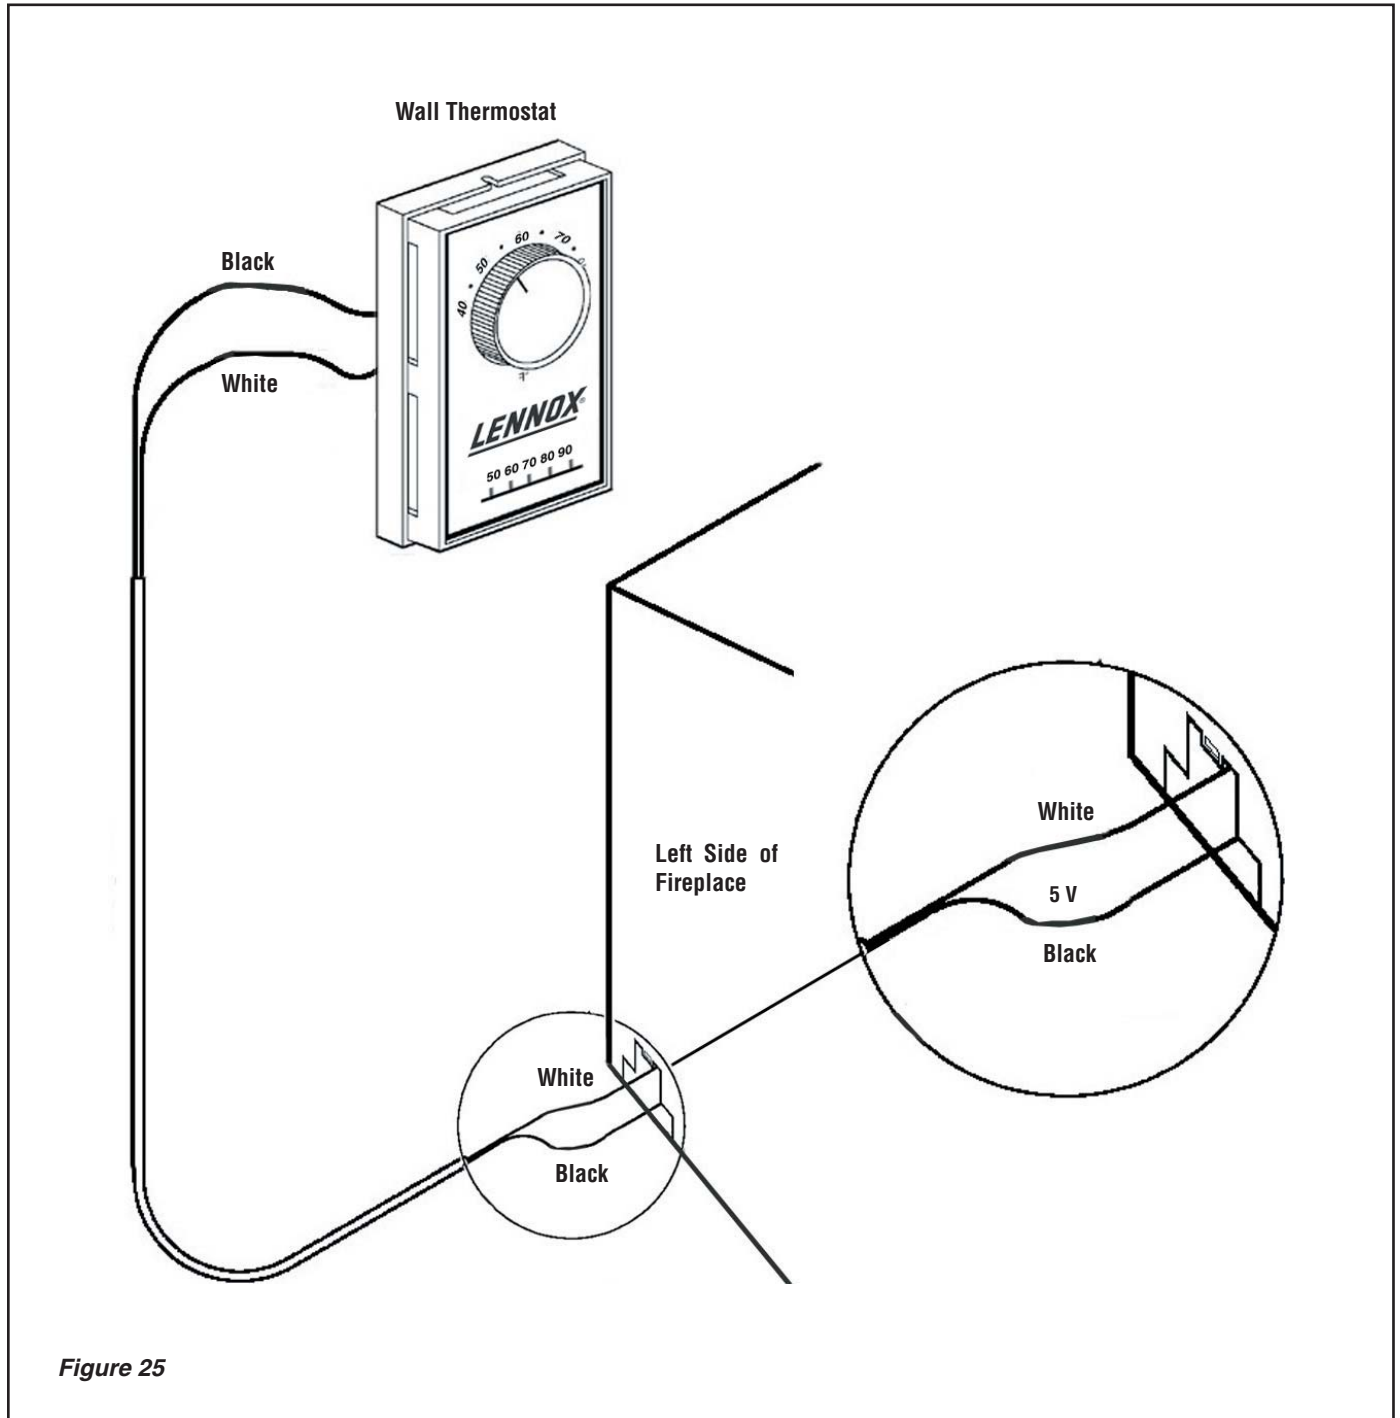

Figure 25
4. Connect the wires to the wall thermostat as shown in Figure 25. Follow instructions provided with wall switch kit.